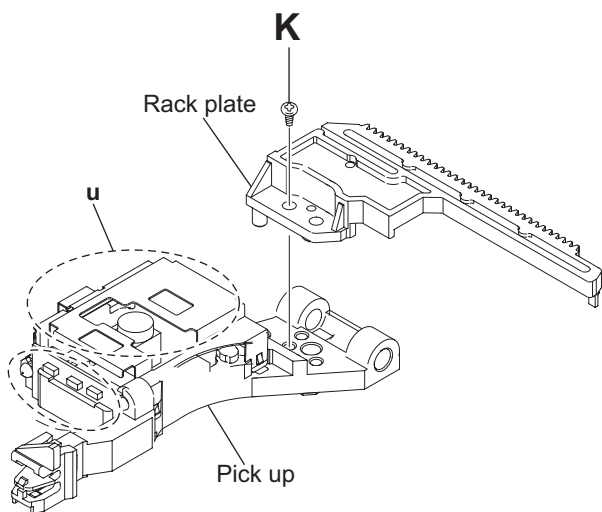

Fig.22
- Remove the screw **K** attaching the pickup to the rack plate. (See Fig.22.)